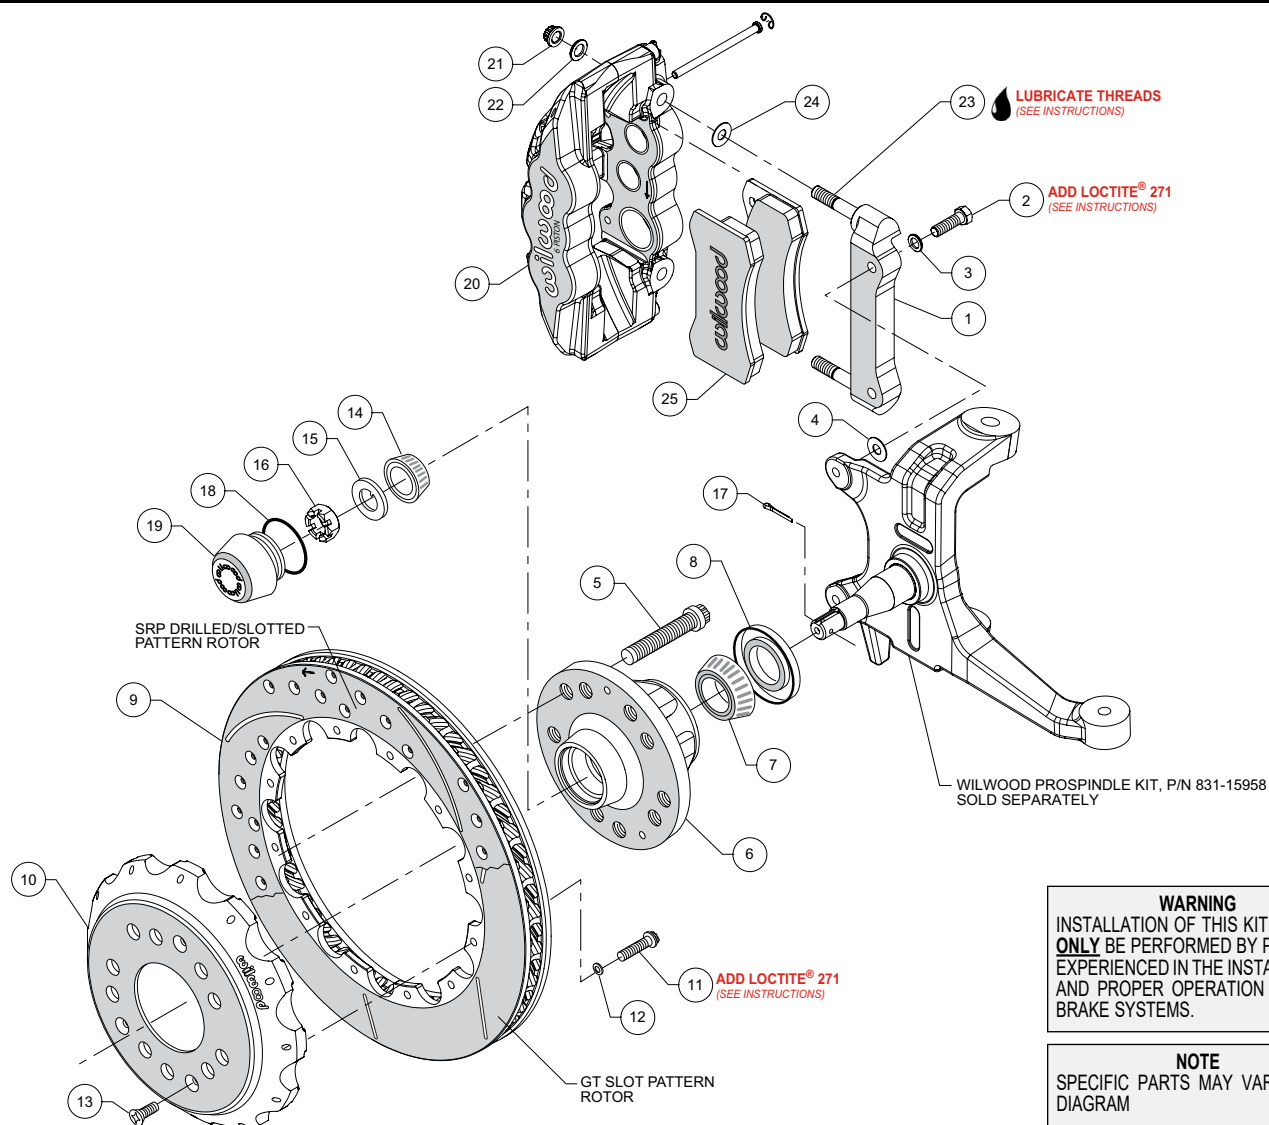
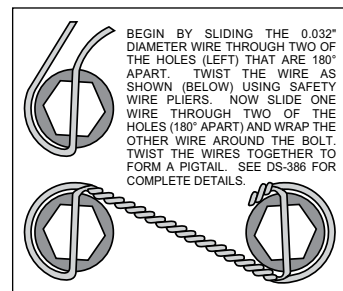

Figure 1. Typical Installation Configuration
Figure 3. Safety Wire Diagram
NOTE: Numbers in parenthesis refer to the parts list and Figure 1 on the preceding pages.
- The caliper mount bracket (1) should initially be installed with clean, dry threads on the mounting bolts. Orient the bracket as shown in Figure 1, and install using bolts (2) and washers (3). Initially place one .035" thick shim (4) on each bolt between the bracket and spindle, Figure 1 and Photo 1. Temporarily tighten the mounting bolts. **NOTE:** The bracket must fit squarely against the mounting points on the spindle. Inspect for interference from casting irregularities, machining ridges, burrs, etc. Later, after the caliper alignment has been checked, the mount bolts will be secured using red *Loctite*® 271.
- Screw dust cap (19) into hub (6). Friction created by the o-ring (18) on the dust cap keeps it from unscrewing. **NOTE:** The O.D. of the existing OEM spindle washer may be larger than the I.D. of the dust cap not allowing it to seat against the hub face. Therefore, use the spindle washer (15) supplied with the kit instead of the OEM washer.
- Orient the rotor (9) and the hat (10) as shown in Figure 1 and Photo 5. Attach rotor to hat using bolts (11) and washers (12). Using an alternating sequence, apply red *Loctite*® 271 to the threads and torque bolts to 155 in-lb. For an added measure of security, the bolts may be safety wired using standard 0.032 inch diameter stainless steel safety wire as shown in Figure 3. Refer to Wilwood's data sheet DS-386 (available at www.wilwood.com/Pdf/DataSheets/ds386.pdf) for complete safety wire installation instructions.
•**NOTE:** This kit contains distinct right and left hand calipers that must be mounted in a specific direction, as described below. Lubricate the caliper mounting studs (23) with lightweight oil. Initially place one .030" thick shim (24) on each stud between the caliper and the bracket, as shown in Figure 1 and Photo 7. Mount the caliper (20) onto the bracket (1) using lock nuts (21) and washers (22), Figure 1. Temporarily tighten the lock nuts. Ensure that the caliper is mounted so the largest pistons are at the rotor exit end of the caliper, in relation to the direction of the rotor. View the rotor through the top opening of the caliper. The rotor should be centered in the caliper, Photo 8. If not, adjust by adding or subtracting shims (4) between the bracket and the spindle. Always use the same amount of shims on each of the two mounting bolts. Once the caliper alignment is correct, remove the bracket mounting bolts (2) one at a time, apply red Loctite® 271 to the threads, and torque to 40 ft-lbs.
•Remove the caliper (20), then remove the two pad retaining pins from the caliper by carefully popping out the pin retaining clips and sliding out the pins. Insert the brake pads (25) into the caliper from the bottom, Figure 1 and Photo 9. With the friction material facing the rotor, secure the brake pads in place with the pad retaining pins and clips, Photo 10. Reinstall the caliper onto the caliper mounting bracket and temporarily tighten the lock nuts. Check that the top of the brake pad is flush with the outside diameter of the rotor, Photo 11. If not, adjust by adding or subtracting shims (24) between the caliper and the bracket. After the caliper pad height is set, torque the caliper lock nuts (21) to 47 ft-lb.